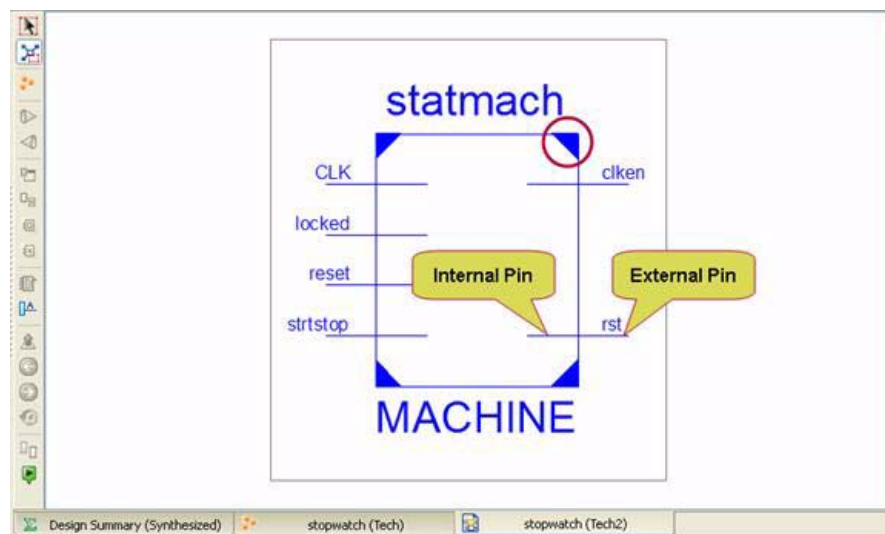

Figure 5-4: Schematic Representation
The created schematic will have the following representation as shown in Figure 5-4.
- All hierarchical blocks have triangles in four symbol corners as shown in Figure 5-4 and Figure 5-5.